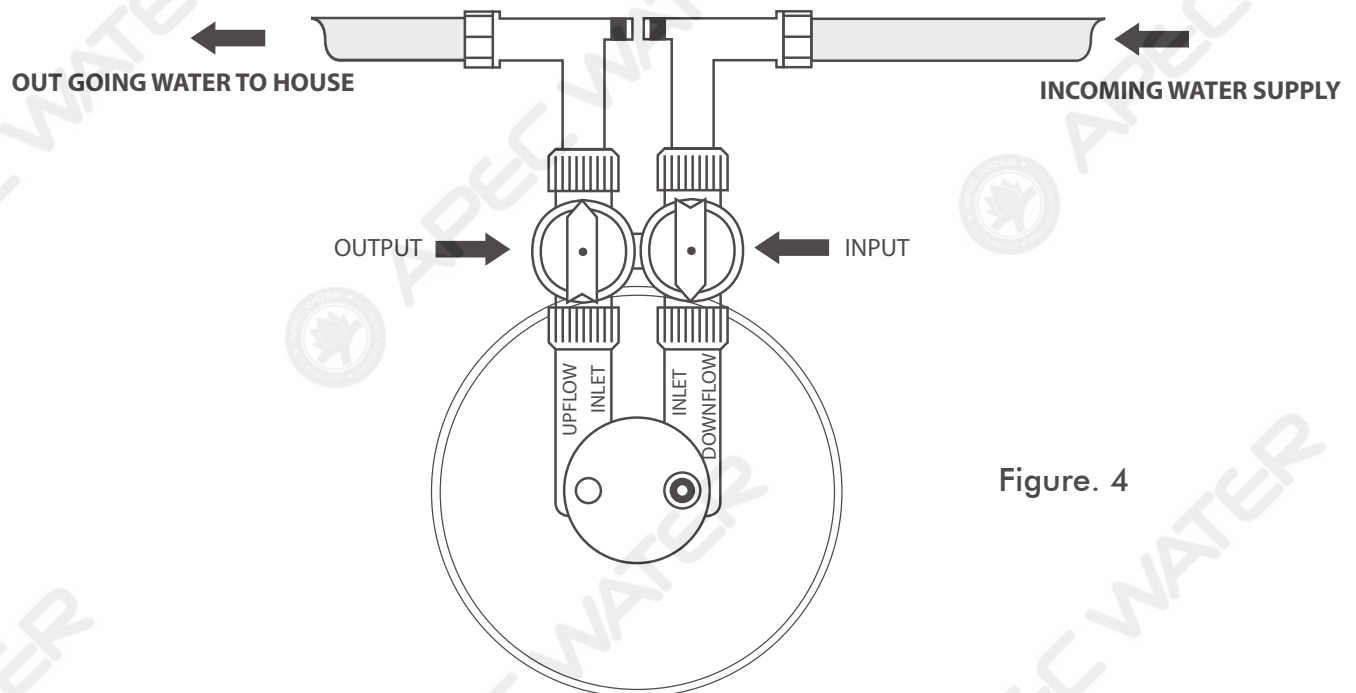

Figure. 4
2. When running the piping for the Green Carbon Water Conditioner, connect the incoming water supply to the **DOWN-FLOW INLET (Input)** side. Connect the water supply line going into the house to the **UP-FLOW INLET (Output)** side. (See Figure. 4)